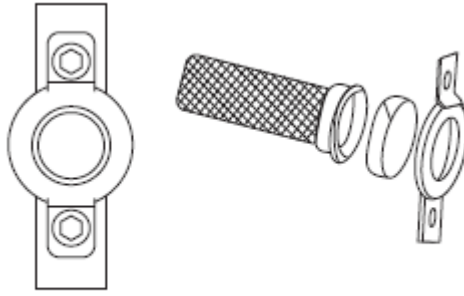

Figure-17 Spark Arrestor Screen
- * To service spark arrestor **See figure-17**. Remove the clamp to remove retainer.